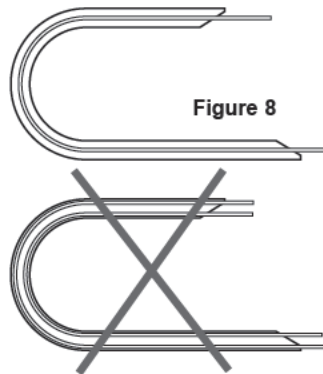

Figure 8
4. Cables/hoses should be installed along the centerline of the carriers (Fig. 8). This eliminates undue cable/hose wear caused by excessive contact on the inner or outer radius of the trak. Be sure cables/hoses are not under tension or installed with too much slack.